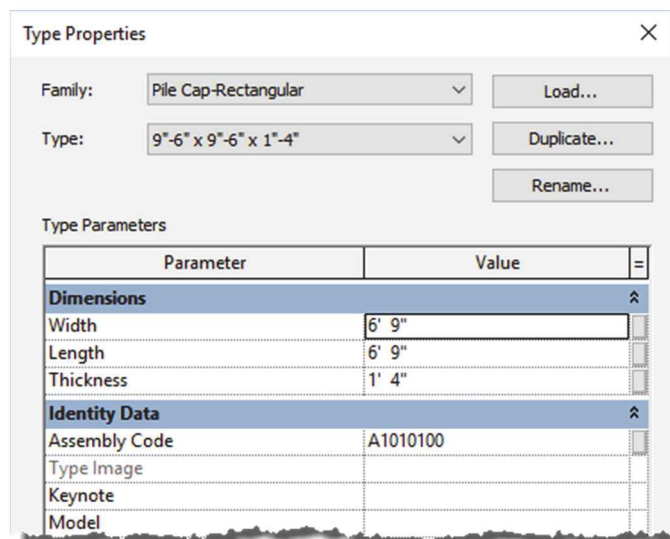

FIGURE 8-5.8 Isolated footing type properties
37. Adjust the *Width*, *Length* and *Thickness* parameters accordingly; make them match the new type name you just created. See **Figure 8-5.8**.